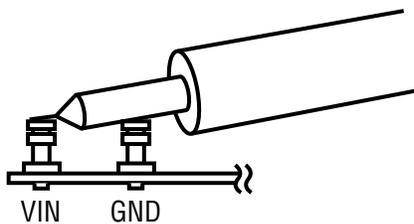

Figure 2. Measuring Input or Output Ripple
**Note:** When measuring the input or output voltage ripple, care must be taken to avoid a long ground lead on the oscilloscope probe. Measure the input or output voltage ripple by touching the probe tip directly across the  $V_{IN}$  or  $V_{OUT}$  and GND terminals. See the proper scope probe technique in Figure 2.
5. Set the load current of both outputs to 600mA and the input voltages to 12V, and then measure each output ripple voltage (refer to Figure 2 for proper measurement technique); they should each measure less than 20mVAC. Also, observe the voltage waveform at either switch node (Pin 5 for reg.1 and Pin 8 for reg.2) of each regulator. The switching frequencies should be about 2.25MHz  $\pm 20\%$  ( $T = 555$ ns and 370ns). Both switch node waveforms should be rectangular in shape, and 180° out-of-phase with each other.